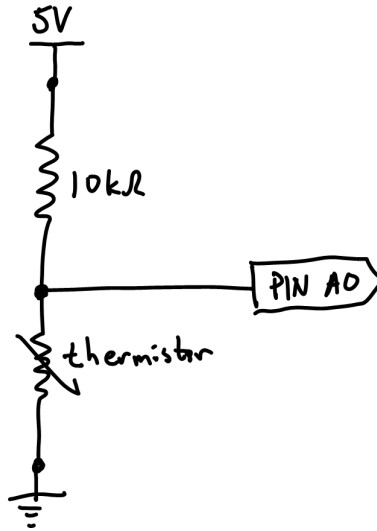

Figure 10: Schematic for temperature sensor circuit.
6. Using a breadboard, wire your thermistor according to the schematic provided in Figure 10. You'll need to connect a ground, provide 5V power, and read voltages of your voltage divider.6 You'll want the thermistor to be easily moved, so put it at the end of a two-wire ribbon cable.